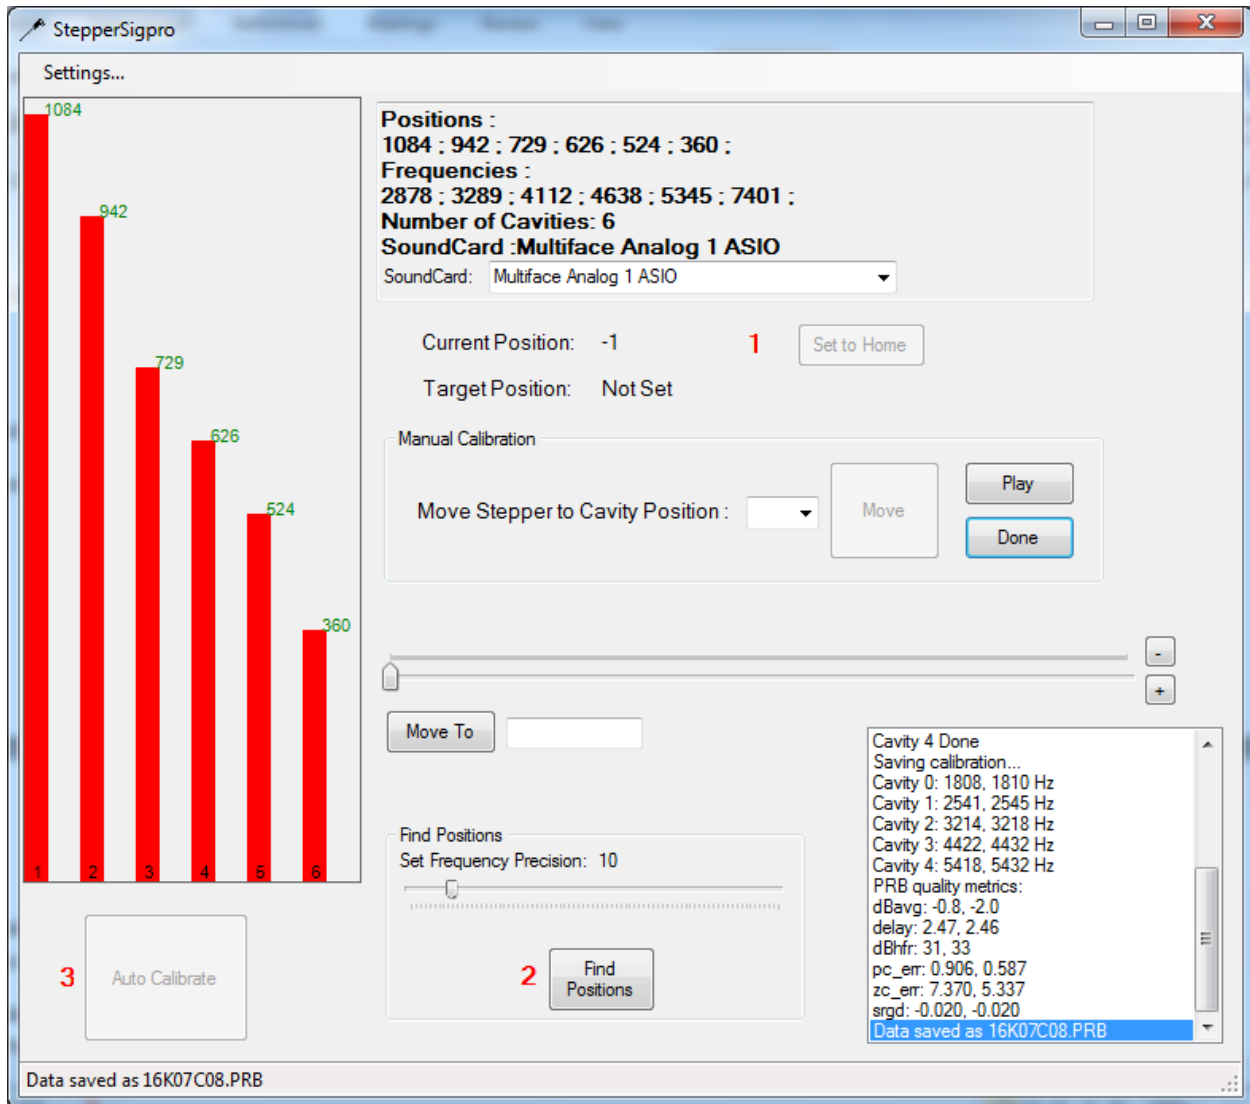

Figure 7. Example of a completed calibration using physical cavities.
- Click the “Done” button to save the calibration (Figure 7). The program calculates Thévenin characteristics, displays quality metrics, and writes a PRB and THS file.